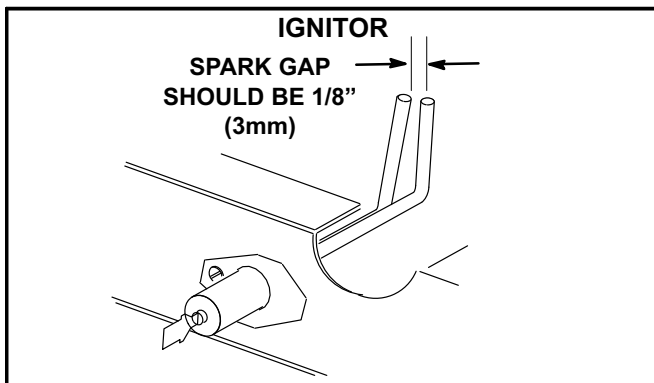

FIGURE 26
- 5- Locate the ignitor under the right burner. Check ignitor spark gap with appropriately sized twist drills or feeler gauges. See figure 26.